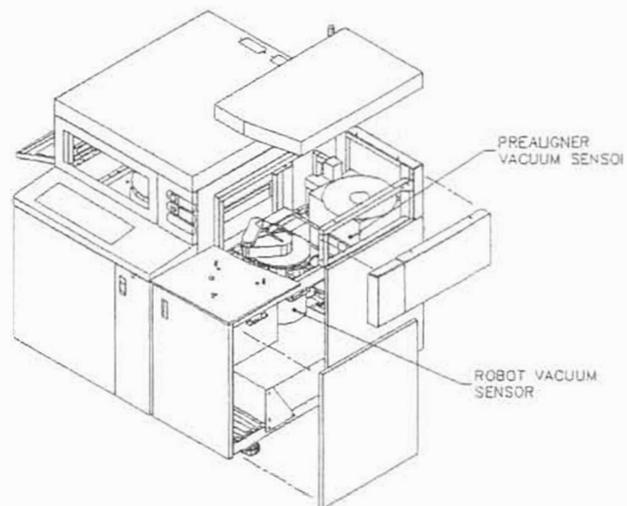

Figure 6
- .6 Use a small screwdriver to adjust the robot vacuum sensor. Turn clockwise to make the robot more sensitive, counter clockwise to make it less sensitive. (See figure 6 for robot and Prealigner vacuum sensor locations.)